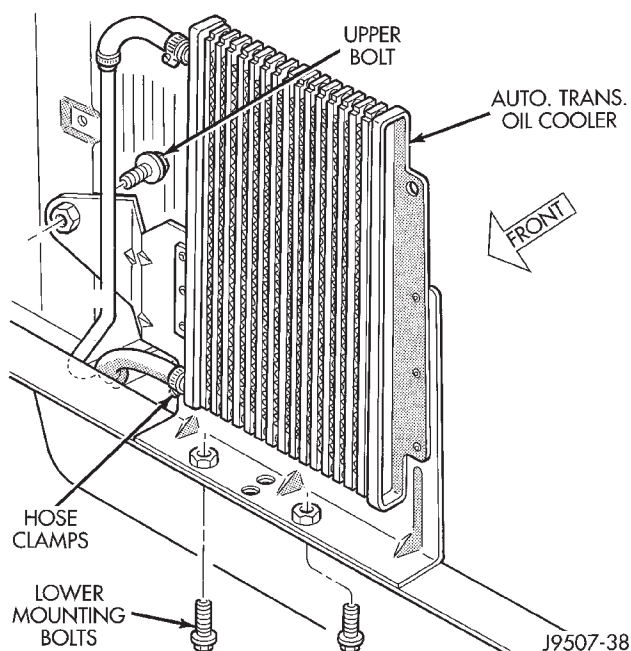

Fig. 44 Auxiliary Air-To-Oil Cooler—YJ Models
On XJ and YJ models, the cooler is located in front of the radiator or A/C condenser (if equipped) and behind the grill (Figs. 44, 45 or 46). It is mounted to the front frame crossmember.
- (4) Carefully tilt the A/C condenser rearward for access to the auxiliary transmission oil cooler.
- (5) Place a drain pan below the oil cooler.
- (6) Remove the two hose clamps at oil cooler inlet and outlet tubes (Fig. 44).
- (7) Remove the three oil cooler mounting bolts (Fig. 44).
- (8) Remove the oil cooler from vehicle.
- (9) Reverse the preceding operation for installation. Tighten the two clamps 2 N·m (15 in. lbs.) torque. Tighten mounting bolts to 8 N·m (72 in. lbs.) torque.